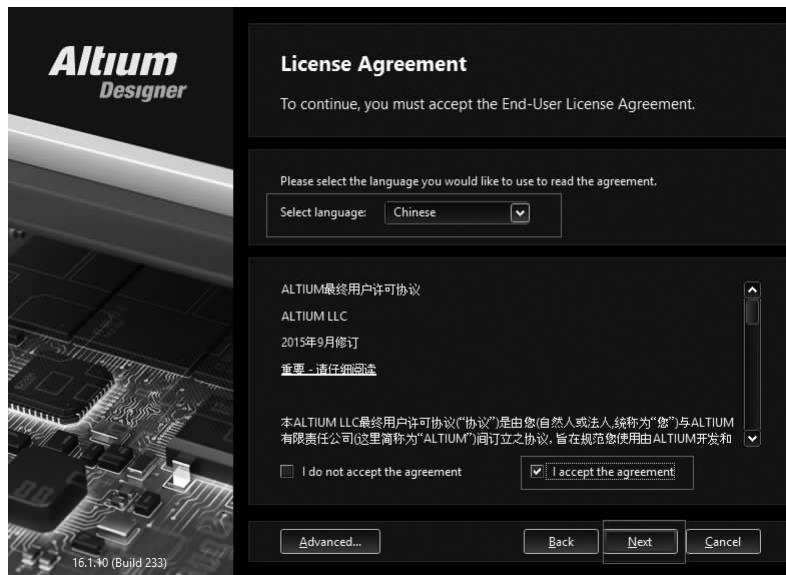

图 1-3 选择安装 Altium Designer 16 的阅读协议语言
(3)在图 1-3 所示对话框中,在“Please select the language you would like to use to read the agreement”(选择用于阅读协议的语言)处,选择“Chinese”;选中“I accept the agreement”(我接受协议)复选框,单击“Next”按钮。